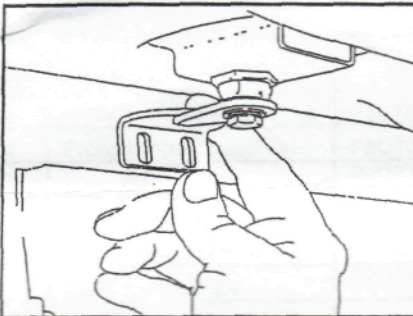

Fig.11
12. To fit lock brackets, open tailgate and close lid. Make a mark where the lock cam (arm) lines up with the sides of the ute liner. Open lid to install lock bracket. Position lock bracket and using a 2 mm diameter drill bit set to 5 mm drill stop to drill a pilot hole in each vertical slot of the bracket. Ensure that there is allowance for up and down adjustment of the bracket. Fasten bracket with self-drilling screws (supplied) ensuring thread installs into metal of Ute rail, again allowing for up and down adjustment. **Refer to Fig. 11**